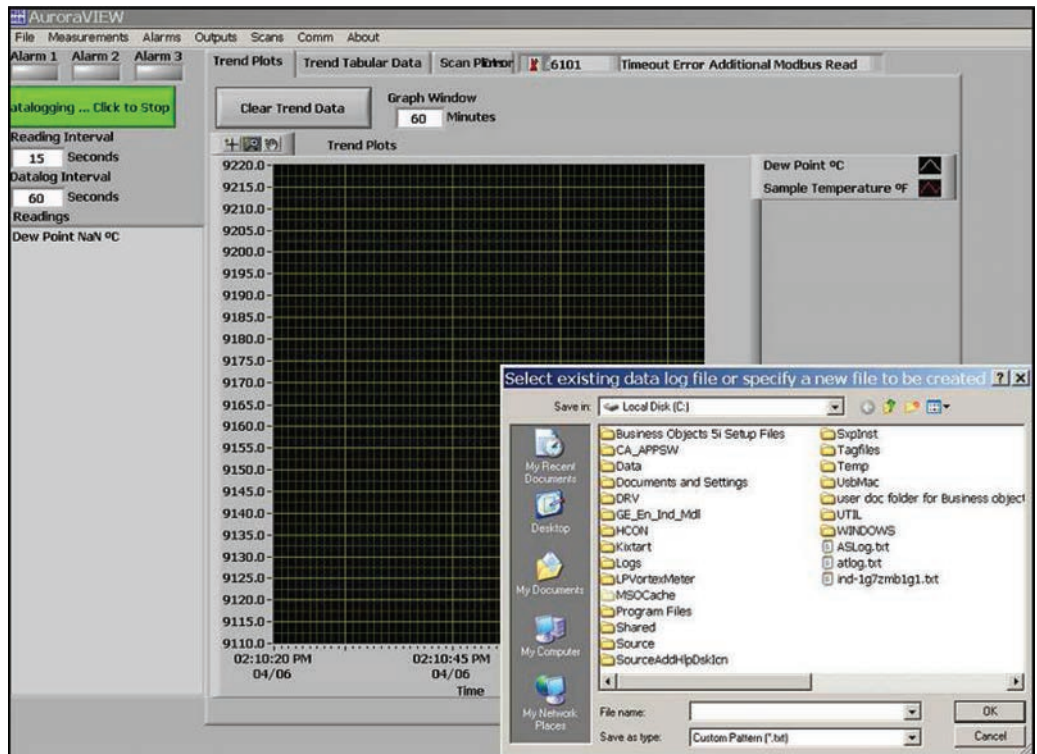

Figure 67: Datalogging with AuroraView
1. In the main view (see *Figure 67* below), click on the button *click to datalog*.